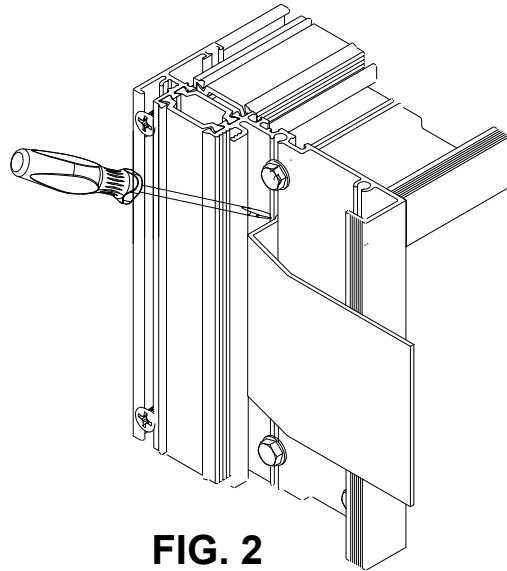

FIG. 2
- Position Strap anchors as per approved Shop Drawings along the frame. To prevent the movement of Strap Anchors crimp from both sides using flat head screw driver. **See FIG 2.**